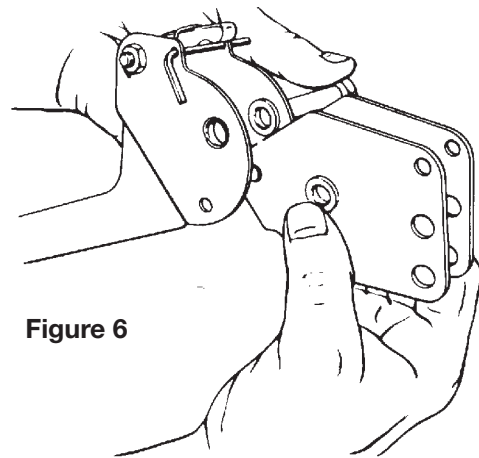

Figure 6
8. Grasp the side plate assembly firmly with the notched edges of the plate facing down. While holding tightly between fingers, remove the sprocket pin (see Figure 6).
9. Carefully insert the plate assembly into the left handle between the washers (57). Align the holes and slide the sprocket pin into position.